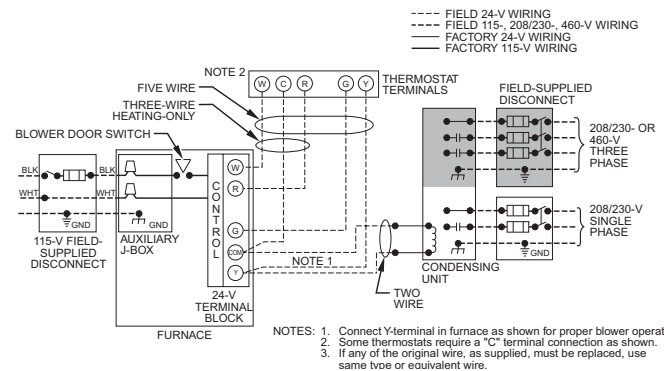

Fig. 33 – Typical Single-Stage Wiring Diagram
See Fig. 33 for field wiring diagram showing typical field 115V wiring. Check all factory and field electrical connections for tightness.
6. Connect power cord power and neutral leads to furnace power leads as shown in Fig. 33.
5. Connect field power and neutral leads to furnace power leads. as shown in Fig. 33.
Make field 24V connections at the 24V terminal strip. See Fig. 38. Connect terminal Y as shown in Fig. 33 for proper cooling operation. Use only AWG #18, color-coded, copper thermostat wire.